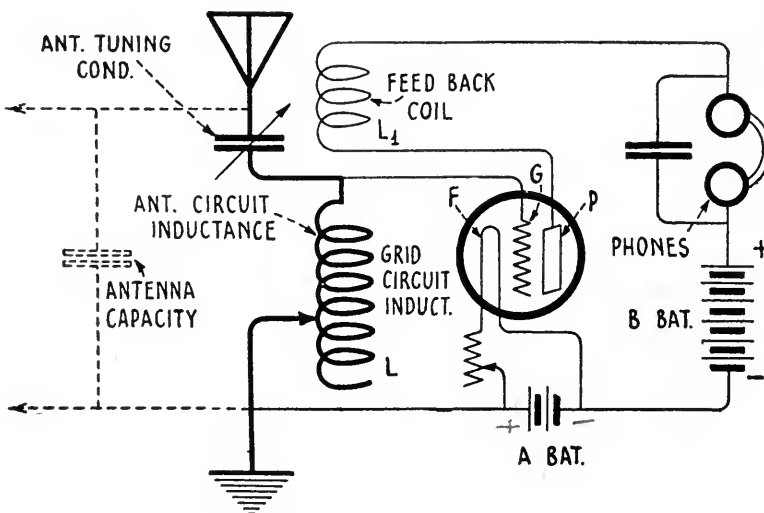
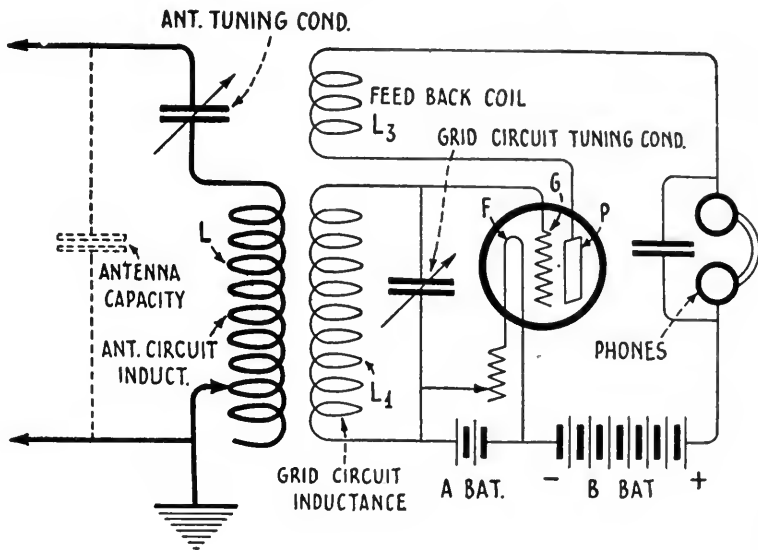

FIG. 1
FIG. 2
are known as: single-circuit regenerative receivers (Fig. 1), and three-circuit regenerative receivers (Fig. 2). Both have marked advantages over many other methods of reception.
may be gathered by comparison of Figs. 1 and 2. It will be noted that in the circuit of Fig. 1, the vacuum tube is coupled directly to the antenna circuit, while in Fig. 2, the vacuum-tube circuits are coupled to the antenna circuit through interlinkage of the magnetic fields of the two coils,  $L$  and  $L^1$ . In the single-circuit receiver the coupling between the vacuum-tube circuits and the antenna is 100%, in the three-circuit receiver that value of coupling which works out to greatest advantage, both with regard to sensitivity and selectivity, is usually of the order of 1%.
The three-circuit arrangement. The principal point of difference between this and the hook-up shown in Fig. 1 is that the vacuum-tube circuits are inductively, not conductively, coupled to the antenna circuit
LET us apply this action in the circuits of Fig. 1. The condenser formed by the antenna and earth, the inductance and the variable condenser across which the antenna (condenser) is shunted, the connecting leads, the by-pass condenser and variometer, or "tickler," in the output circuit of the vacuum tube, all possess inherent qualities which tend
to resist the flow of any kind of electrical oscillation within or through them. If a bit of energy in the form of an electrical current is created in the antenna system, it rapidly spends itself in overcoming this resistive force and, by the time it has reached the point where we expect it to perform its useful function, serious inroads have been made upon it. The extent to which it is dissipated depends, of course, upon the amount of resistance which it is called upon to overcome. But let us assume that the circuit of our diagram (Fig. 1) is average in every respect, and that the resistance encountered is not too great to defeat effective operation. We have insured proper connections in our circuit and lighted the filament of the vacuum tube. Immediately this is done, current supplied by the B battery starts an electron flow across the vacuum from the filament to the plate.
**I**N THE three-circuit receiver of Fig. 2, this is not true. For example, let us assume that the vacuum-tube circuits are quiescent, and that a signal pulse arriving upon the antenna induces a like signal current in the secondary circuit of Fig. 2. The charge arriving upon the grid as the result of this inductive action will be slightly smaller than that charge arriving upon the grid had the grid circuit and antenna circuit been very closely coupled, depending upon the excellence of design of the receiver circuits. But, this slight loss, along with other losses of the circuits, may be, and is, fully compensated for by regenerative action and the signal built up and up in the system until its value is equal to or greater than that of the energy placed in the antenna by the passing electric wave. As the regenerative energies in the grid circuit grow larger and larger, their tendency toward control of their own destiny becomes greater and greater. Conversely, their dependence upon the form or nature of those oscillations in the antenna circuit be-